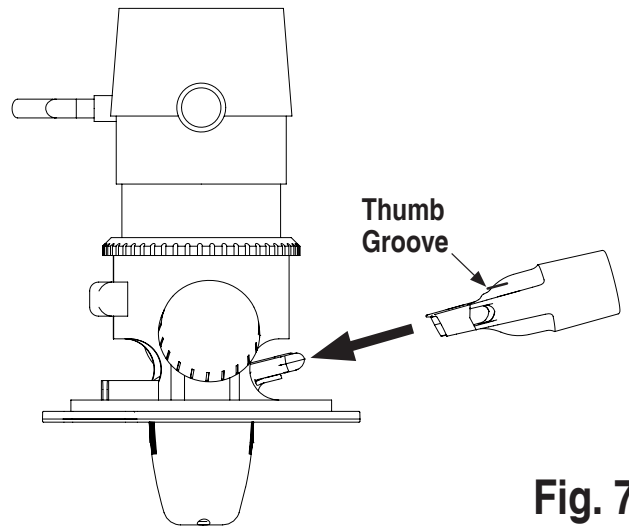

Fig. 7
- With the hose attached, clip the cuff onto the dome. The thumb groove indicates which side is the top (Fig. 7). The connection is a typical side-release clip, making the cuff easily detachable from the dome.